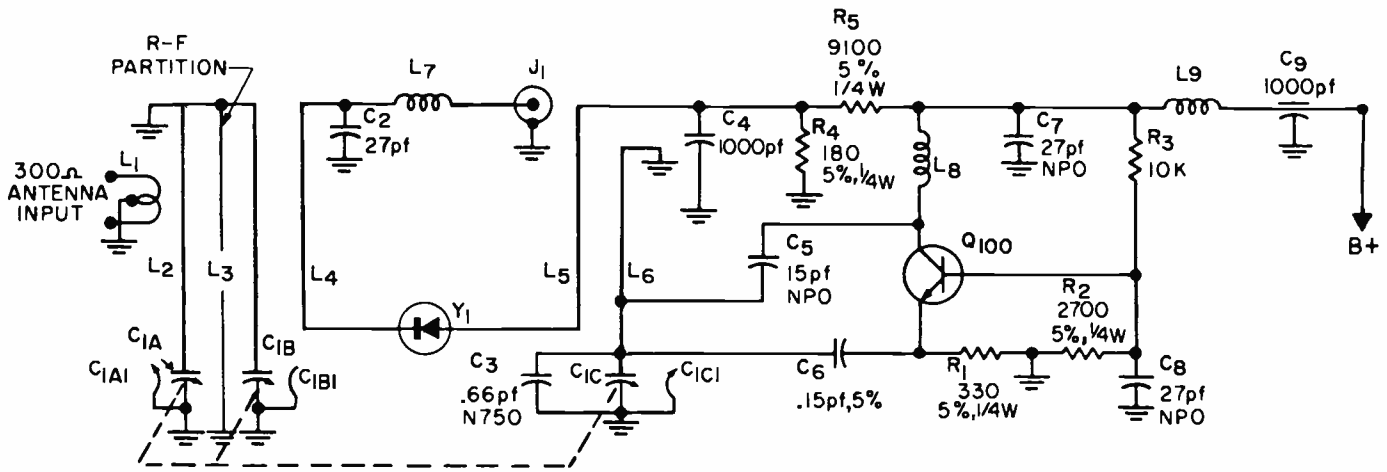
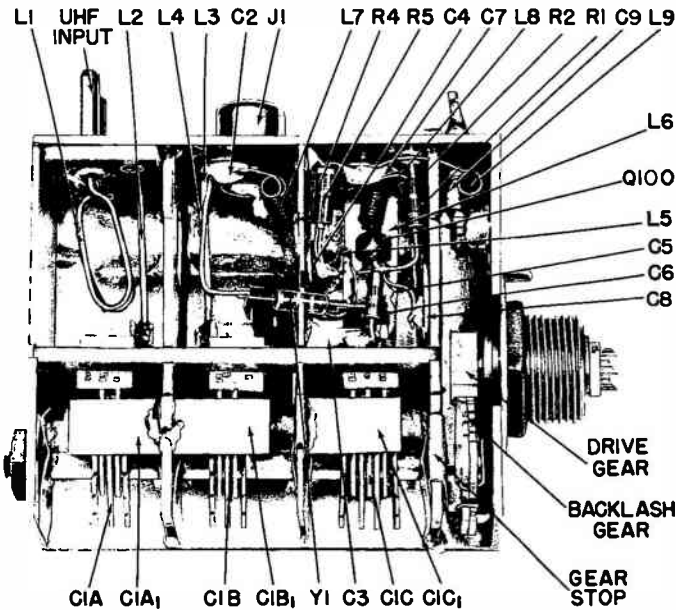

Fig. 45. Schematic diagram of the UHF tuner used in a GE modern portable TV receiver.
Fig. 46. UHF tuner with one of the side shields removed.
A schematic diagram of the UHF tuner used in this receiver is shown in Fig. 45. The antenna input coil L₁ is coupled to L₂. L₂ and C_{1A} form a resonant cir-
A photo of the UHF tuner with one of the side shields removed is shown in Fig. 46. The major parts in the tuner are labelled. Study the photo carefully and compare it with Fig. 45 to get an idea what the parts used in a UHF tuner look like.
- (aj) How is coupling obtained between L₂ and L₃ in Fig. 45?
- (ak) What is Y₁ in Fig. 45?